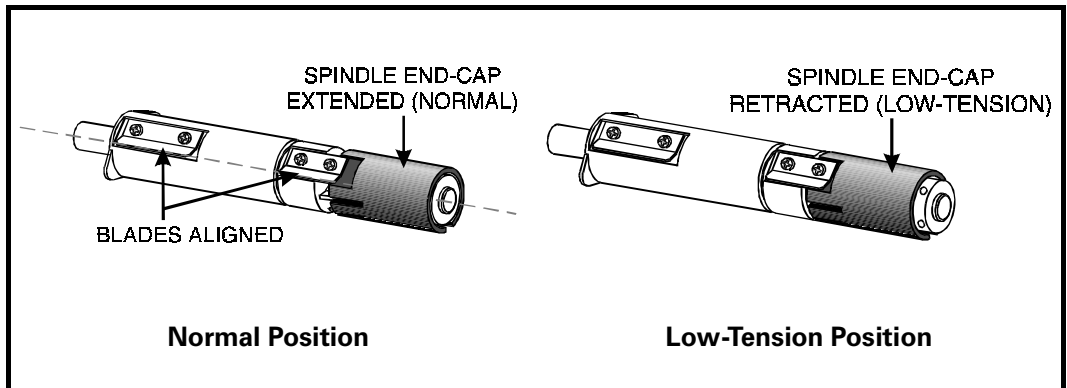

Figure 8 Ribbon Supply Spindle Adjustment
To place the Spindle in the Normal Position, firmly pull the Spindle End-Cap until it clicks into place, as shown in Figure 8.
To put the Spindle in the Low-Tension Position, firmly push the Spindle End-Cap until it clicks into place, as shown in Figure 8.
2. Align the blades on the two sections of the spindle as shown in Figure 8. (You do not need to do this if your ribbon width is 2.4" (60 mm) or less.)